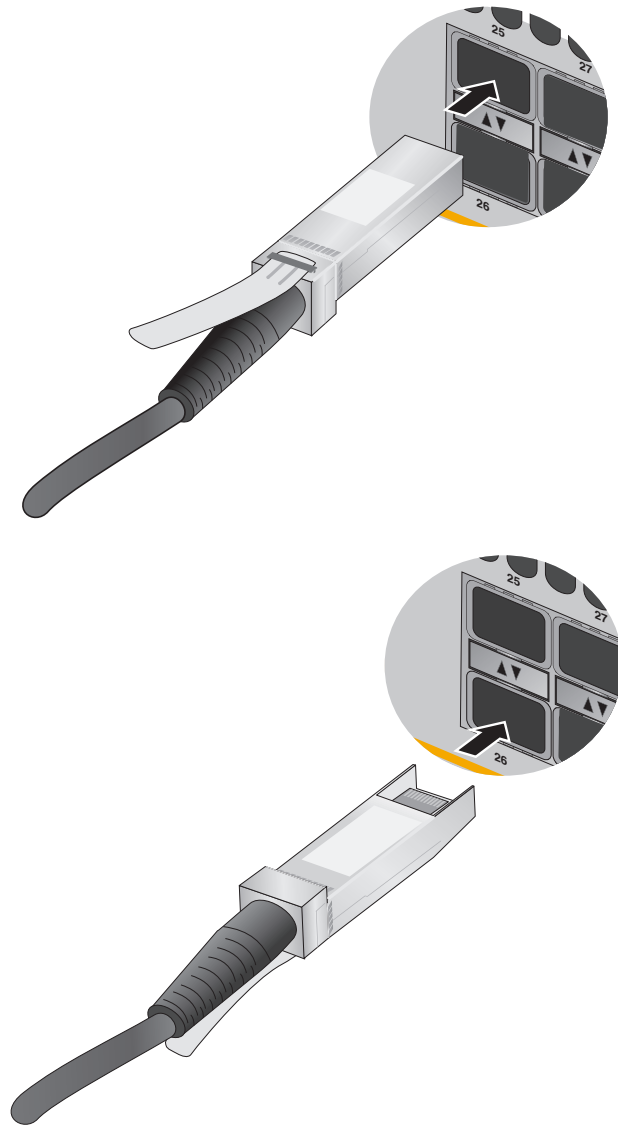

Figure 82. Installing SP10TW Cables
3. To install the transceiver in a port in the top row, position the transceiver with the Allied Telesis label facing up. To install the transceiver in a port in the bottom row, position the transceiver with the label facing down. Refer to Figure 82.